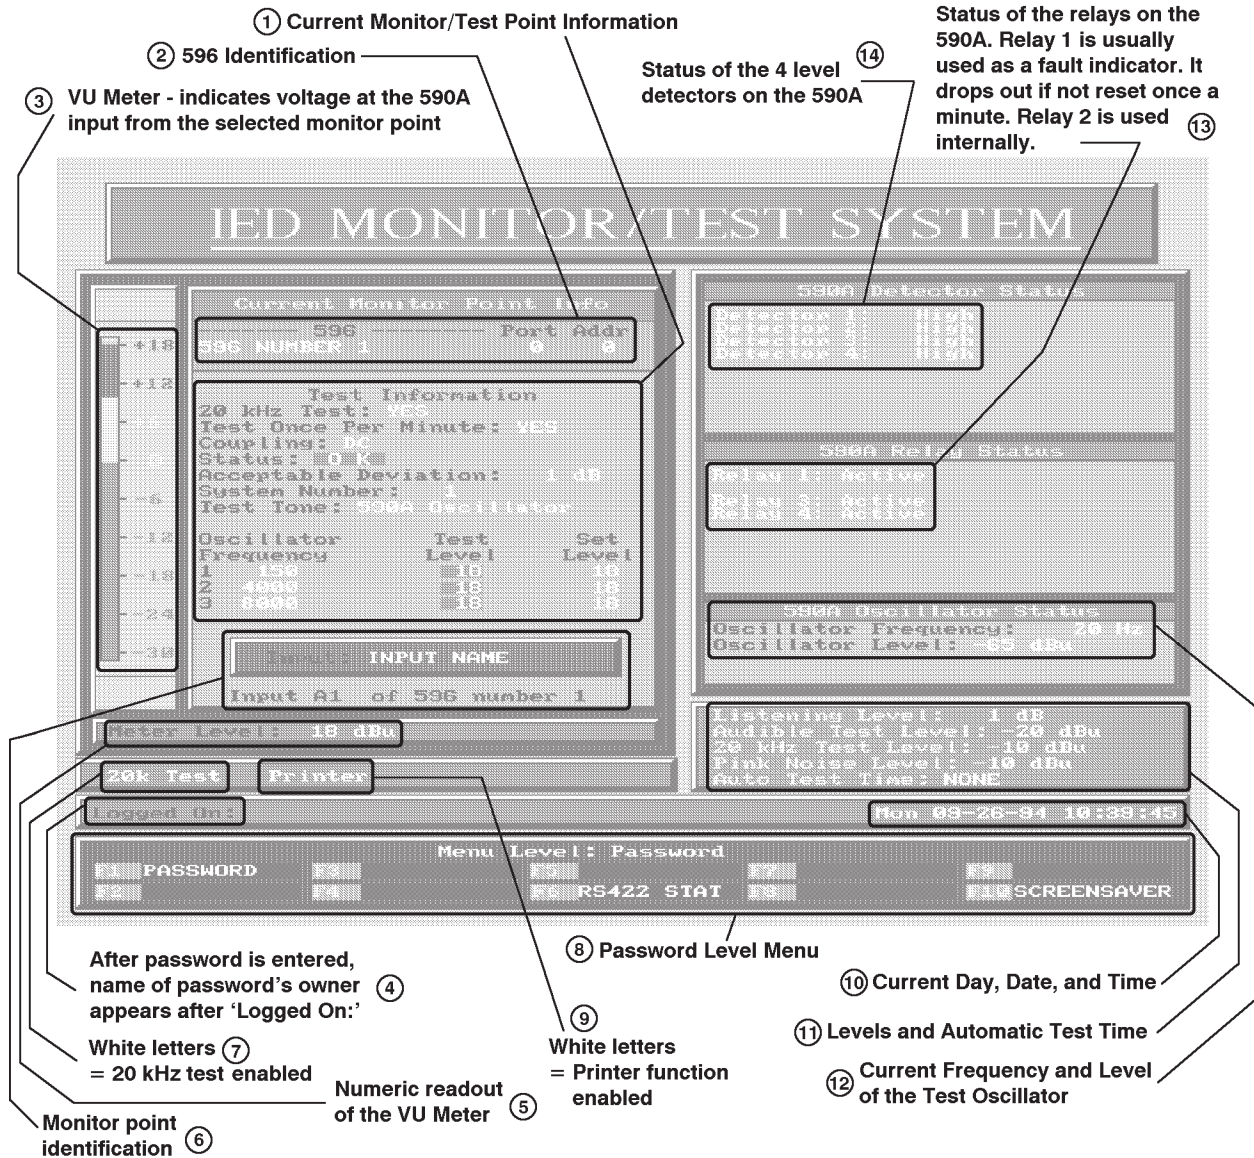
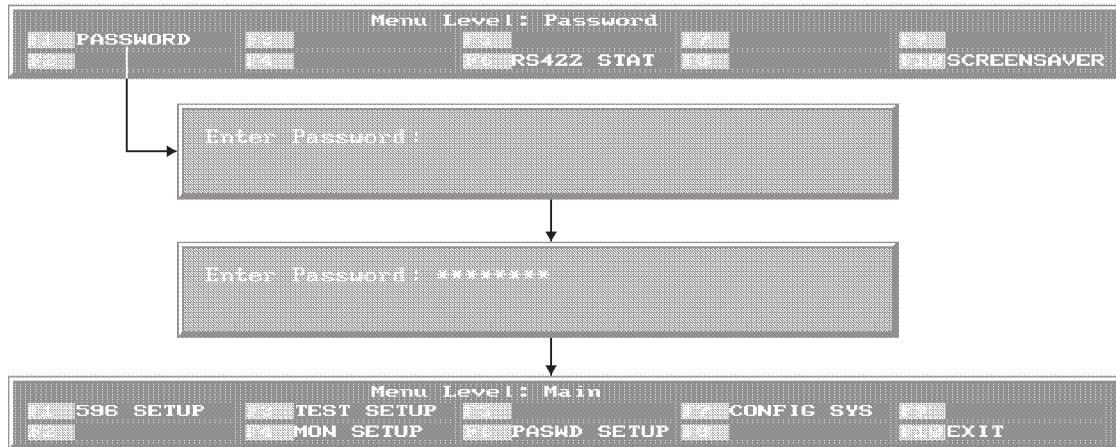

Figure 1 - Monitor/Test System Password Menu and Screen
Figure 2 - Password Menu and Screen Password Function
An explanation of the Password level screen begins on the next page. Feature numbers correspond to the reference numbers in figure 1.
If your password has been entered correctly, the Main menu will appear in place of the Password menu, as shown in Figure 2 . Your name will appear after 'Logged On:' at the left end of the Time Bar. See figure 1, item 4.